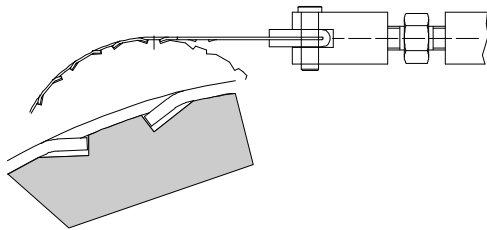

Fig. 5
12. Check band engagement using the magnifier. Now it must be a symmetrical engagement (Fig. 5). If this is not the case loosen tension screw and start again with step 10.
- a) Band engagement symmetrically – Tension OK (Fig. 5)